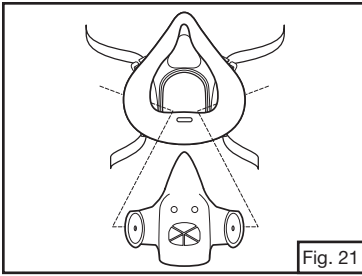

Fig. 21
2. Pull face seal from 3M™ Cartridge/Filter Holder 7586. (Fig. 21).